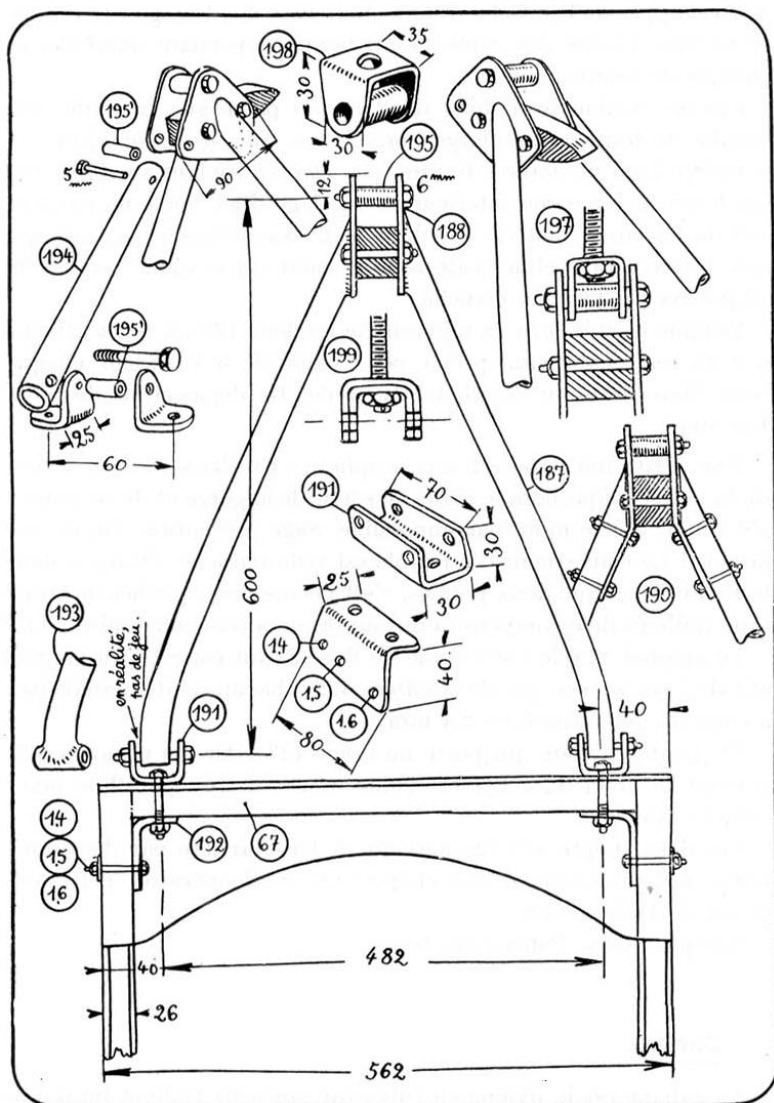

Figure 3.24: Layout of cabane struts
It is made (*fig. 3.24*) of two  $17 \times 20$  tubes (187) welded onto two 2mm cheeks (188), which are separated by a block of hardwood (189) and fastened by two 6mm bolts.